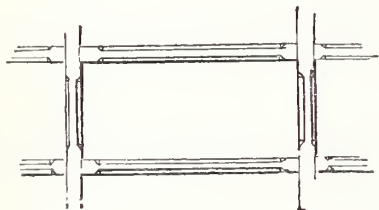

Fig. 111.—Stop Chamfered Edges.
*Stop chamfering* is a method of ornamenting edges by bevelling them and stopping them at certain distances. It will be recognised from the illustration, Fig. 111. The bevelling, if it were run through from end to end of the wood, would present no difficulty; but the stopping and bevelling of the stop often seem to puzzle the amateur, though really the way or ways, for there is more than one, by which they are managed are exceedingly simple. Mark off the position of the stops across the edges, and see that they are regularly disposed. The chamfering, I suppose it is scarcely necessary to say, should be done before the job is made up.